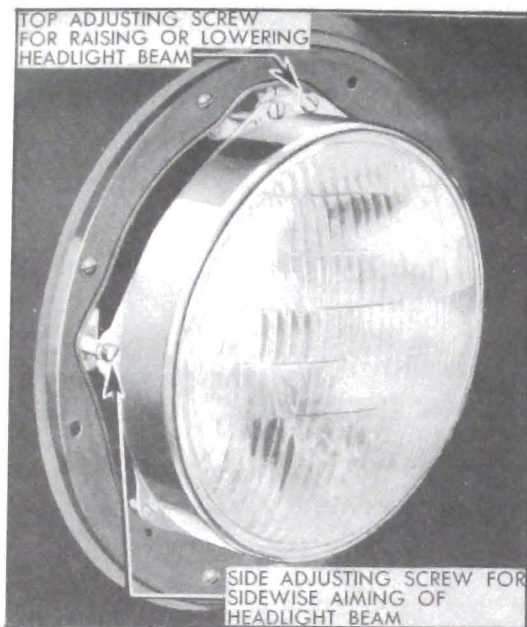

Figure 10-72—Headlamp Aiming Adjustments
2. Adjust light beam up or down as required by turning the top beam adjusting screw. See figure 10-72.